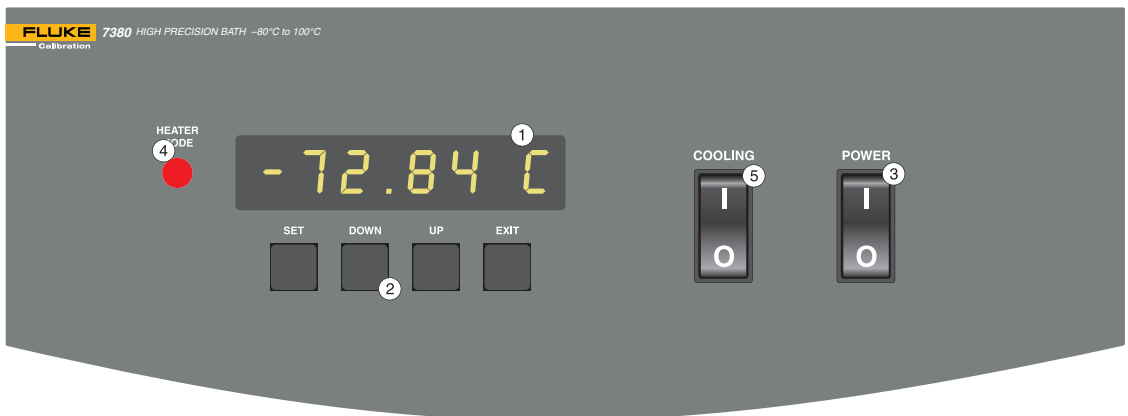

Figure 1 Front Panel
The following controls and indicators are present on the controller front panel (see Figure 1 below): (1) the digital LED display, (2) the control buttons, (3) the on/off power switch, (4) the heater mode light, and (5) the cooling on/off switch.